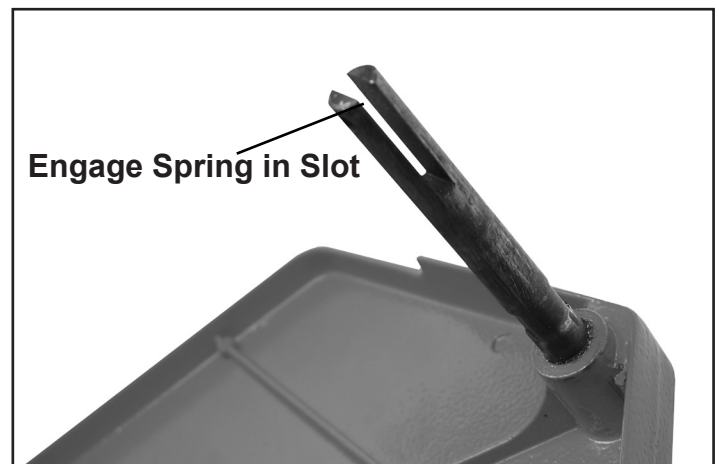

FIG. 14
2. Insert guard post into hole in table. Make sure spring engages slot in guard post. FIG. 14.